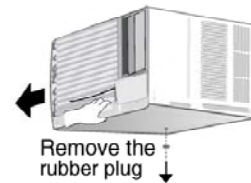

Figure 18
1. Remove the rubber plug and slide the chassis out from the cabinet. (See Fig.18)